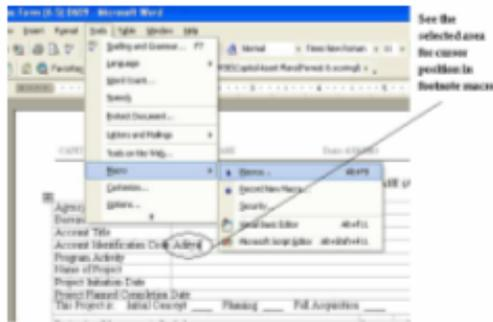

Figure M1
- 1.) For *footnote* macro place the cursor right before your text starts [see the figure M1].